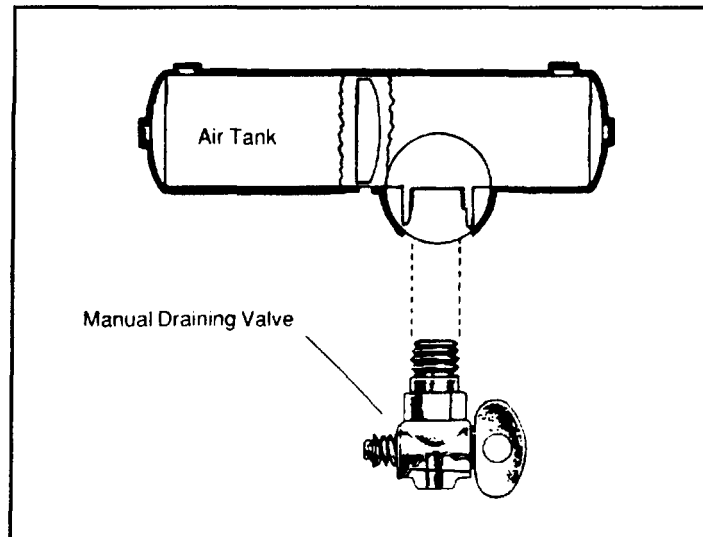

Figure 5-1. Manual drain valve
- a. **Manual Drain Valve.** Manually turn the drain valve a quarter turn or pull a cable to operate the drain valve (Figure 5-1, page 5-2). Drain tanks after each day of driving.